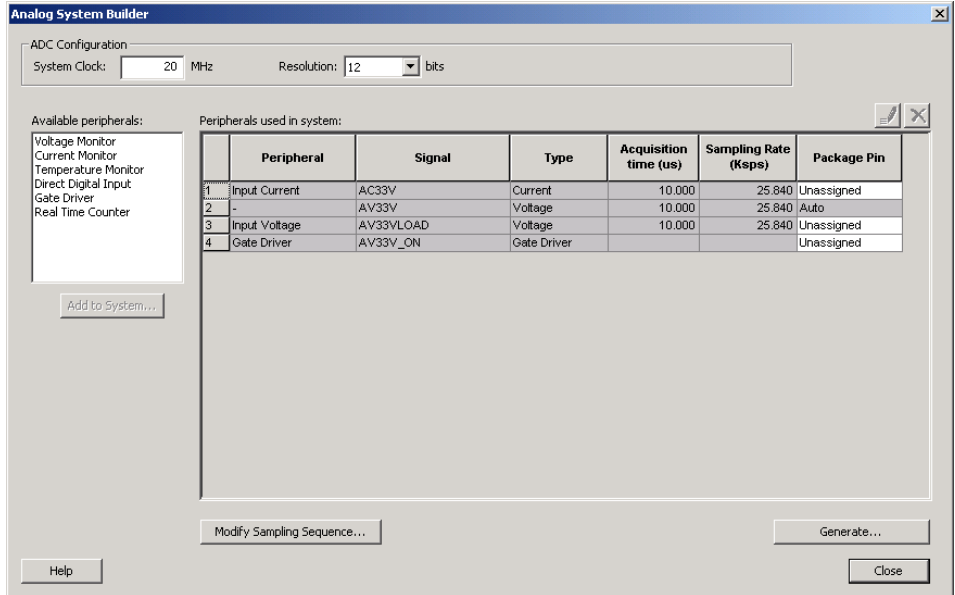

Figure 1-13. Analog System with Current/Voltage Monitors and Gate Driver Added
12. Click **OK**. Your ASB is now configured with a Gate Driver, as shown in Figure 1-13.